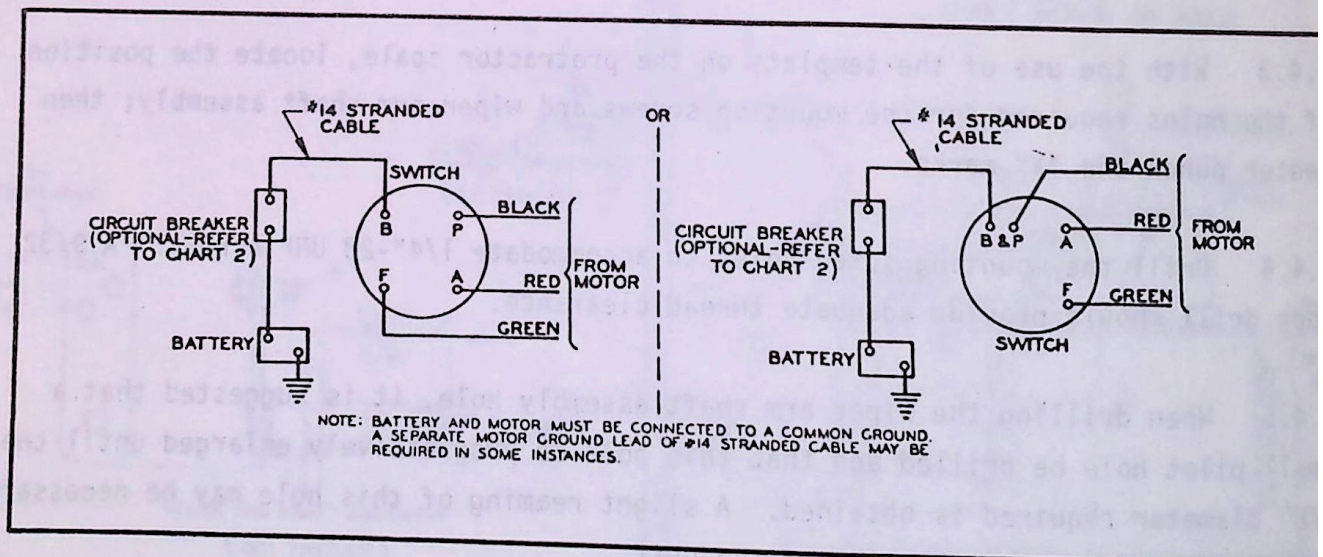

FIGURE 5-4
5.4.8 The windshield wiper should now be wired according to Figure 5-4. Input 1e should be #14 stranded cable or larger.